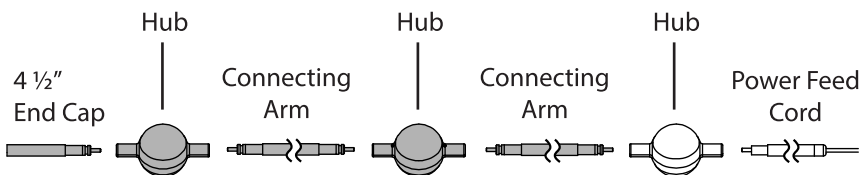

Fig. 2b - Short Drop
2. Complete each Drop as shown in Fig. 2b, 2c, and 2d and place into correct ring, using the same method as in the previous step.